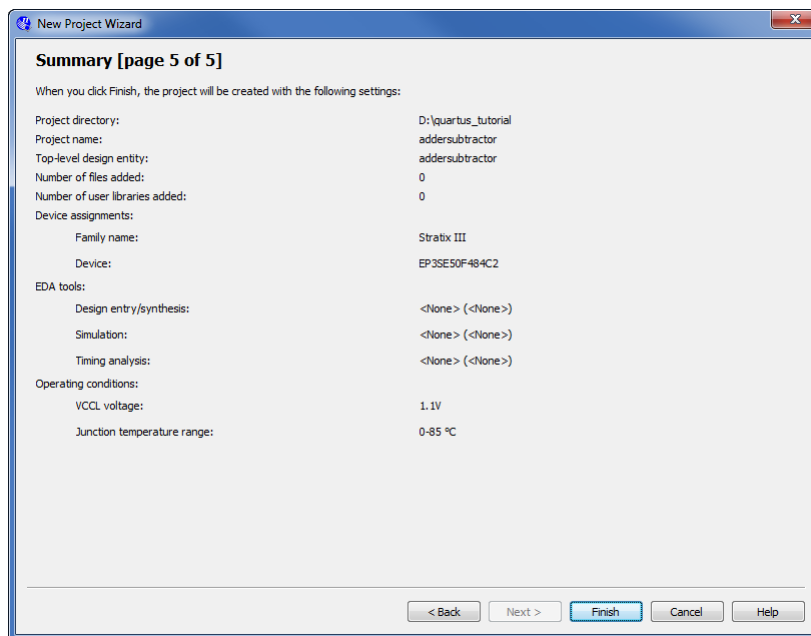
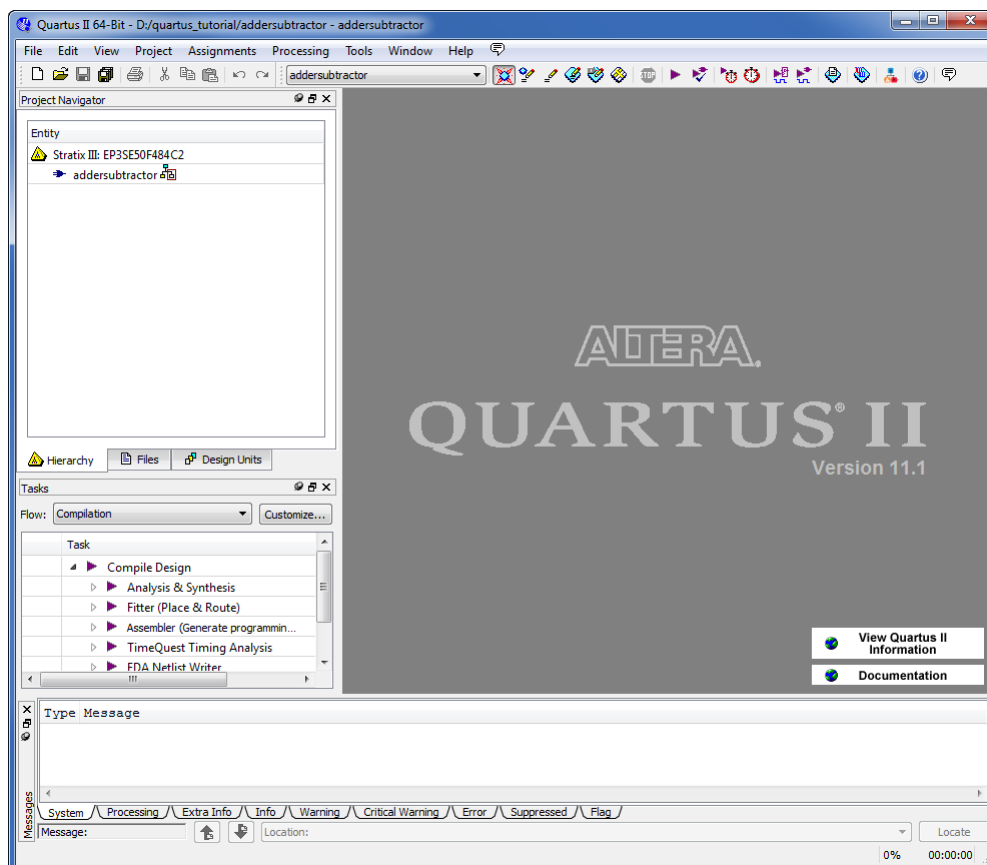

Figure 9: Summary of the project settings.
Figure 10: The Quartus® II display for the created project.
- In this window we can specify any third-party tools that should be used. A commonly used term for CAD software for electronic circuits is *EDA tools*, where the acronym stands for Electronic Design Automation. This term is used in the Quartus® II messages that refer to third-party tools, which are the tools developed and marketed by companies other than Altera®; other tutorials show how such tools may be used. Since we will rely solely on the Quartus® II tools, we will not choose any other tools. Press **Next**. Now, a summary of the chosen settings appears in the screen shown in Figure 9. Press **Finish**, which returns to the main Quartus® II display. Note that *addersubtractor* is now specified as the current project, as indicated in the title bar at the top of the display. The screen should look similar to that of Figure 10.